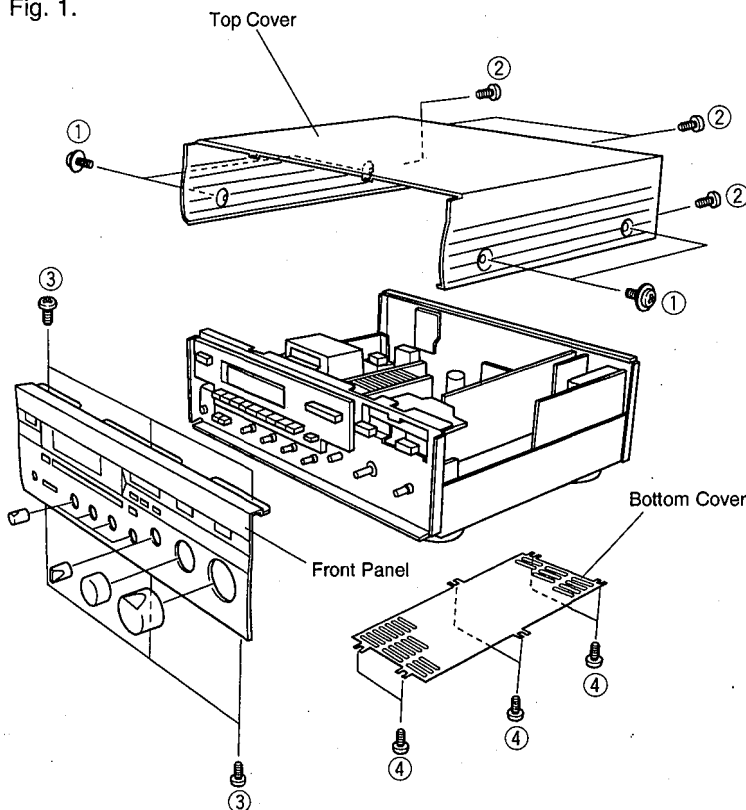

Fig. 1
Remove 4 screws (①) and 4 screws (②) in Fig. 1.
- b. Remove 6 screws (③) in Fig. 1.
Remove 6 screws (④) in Fig. 1.